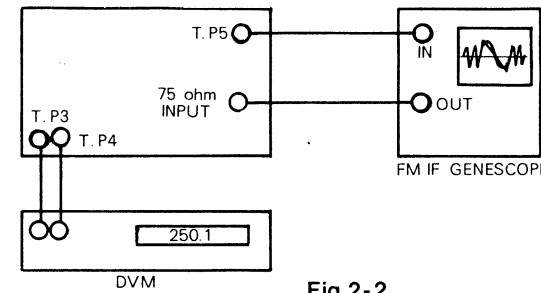

Fig.2-2
- Set up the test equipment as Fig. 2-2.